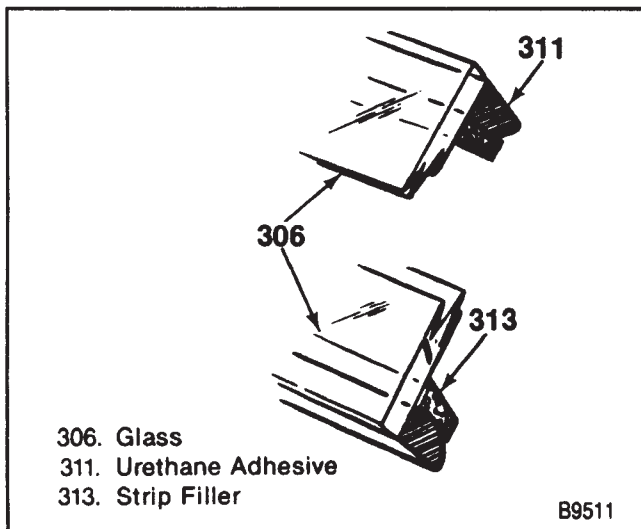

Figure 9—Adhesive Application—Extended Method
7. Urethane adhesive to the primed area (figure 9).